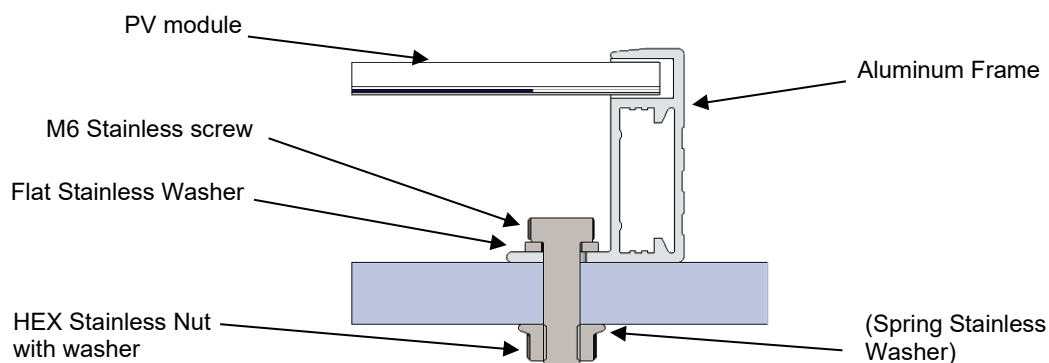

Figure 1. Screw fitting (for illustration only)
- 1) **Frame Holes:** Secure the module to the structure using the factory mounting holes. Four M6 or M8 (depending on module) stainless steel bolts, with nuts washers, and lock washers are recommended per module (Figure 1.). Position of mounting holes are specified in the datasheet of each module type. Before mounting, please check the relevant datasheet.